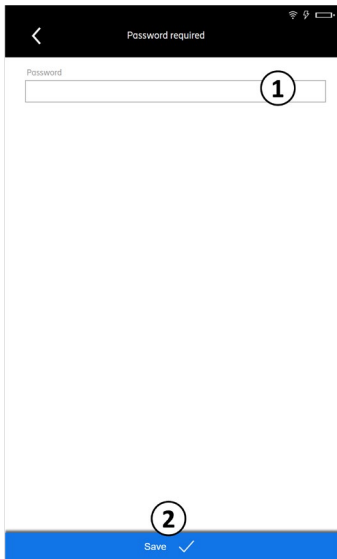

Fig. 39: Service: Enter password
- ① Enters the password to access the service through the numerical keyboard.
- ② Confirms the entered password.
- 1. Click on the Password field (① in Fig. 39). The numerical keyboard is shown.
2. Tap Export (① in Fig. 39).